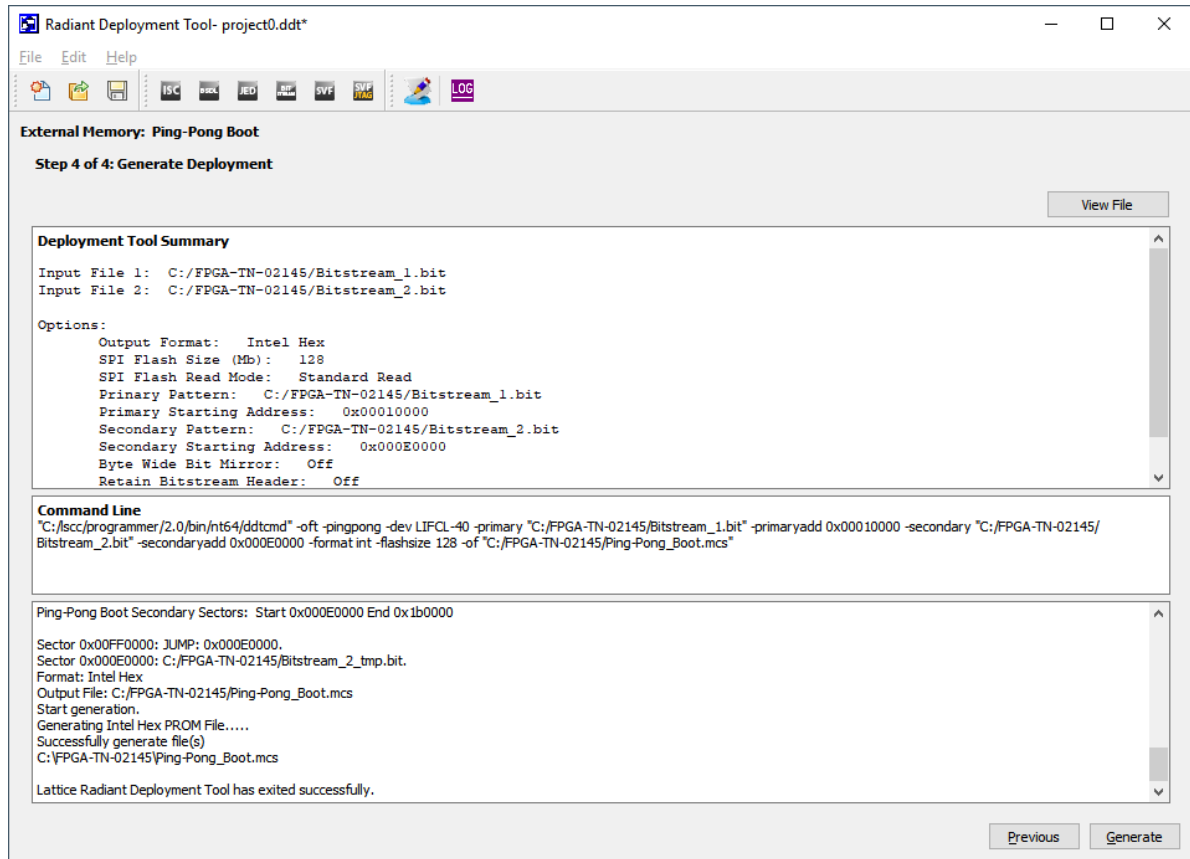

Figure 6.10. Generate Deployment Window
Step 4 of 4: Generate Deployment window (Figure 6.10)